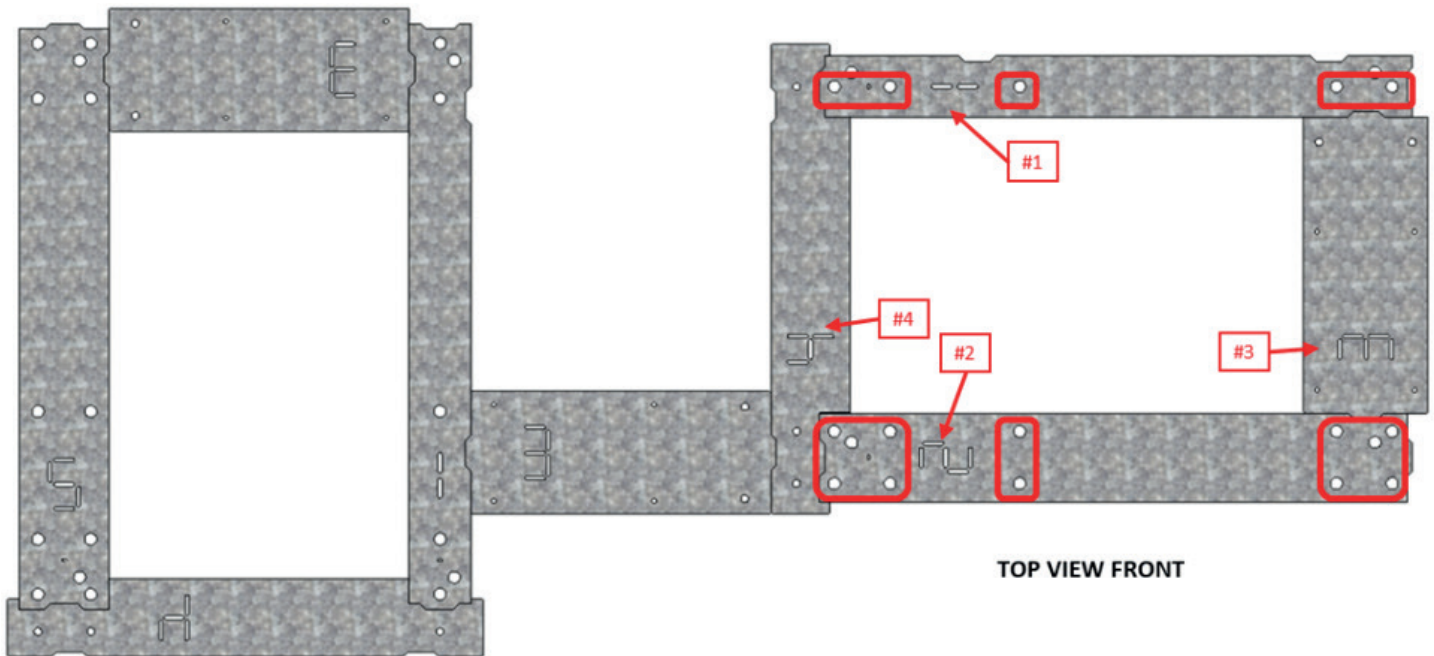

Figure 53. Drilling Template with C-Cab XXL Template Location and 1st B-Cab XXL Drilling Template
The C-Cab XXL is designed with installation in mind, as it already includes a built-in drilling solution as Figure 53. This eliminates the need for a separate drilling template, simplifying the installation process. However, it's crucial to ensure that there's ample floor space for the C-Cab XXL to be installed between the M-Cab XXL and B-Cab XXL.
5. **Reassemble another Template with New Orientation:** Locate another set of templates #1, #2, #3 & #4. Assemble them as before, but this time orient the assembly 90 deg to the C-Cab XXL drilling template and also flip it top to bottom. The template should be as shown as in Figure 53 for the correct positioning.
6. **Mark New Drilling Locations:** Mark the drilling location as shown in red in Figure 53.